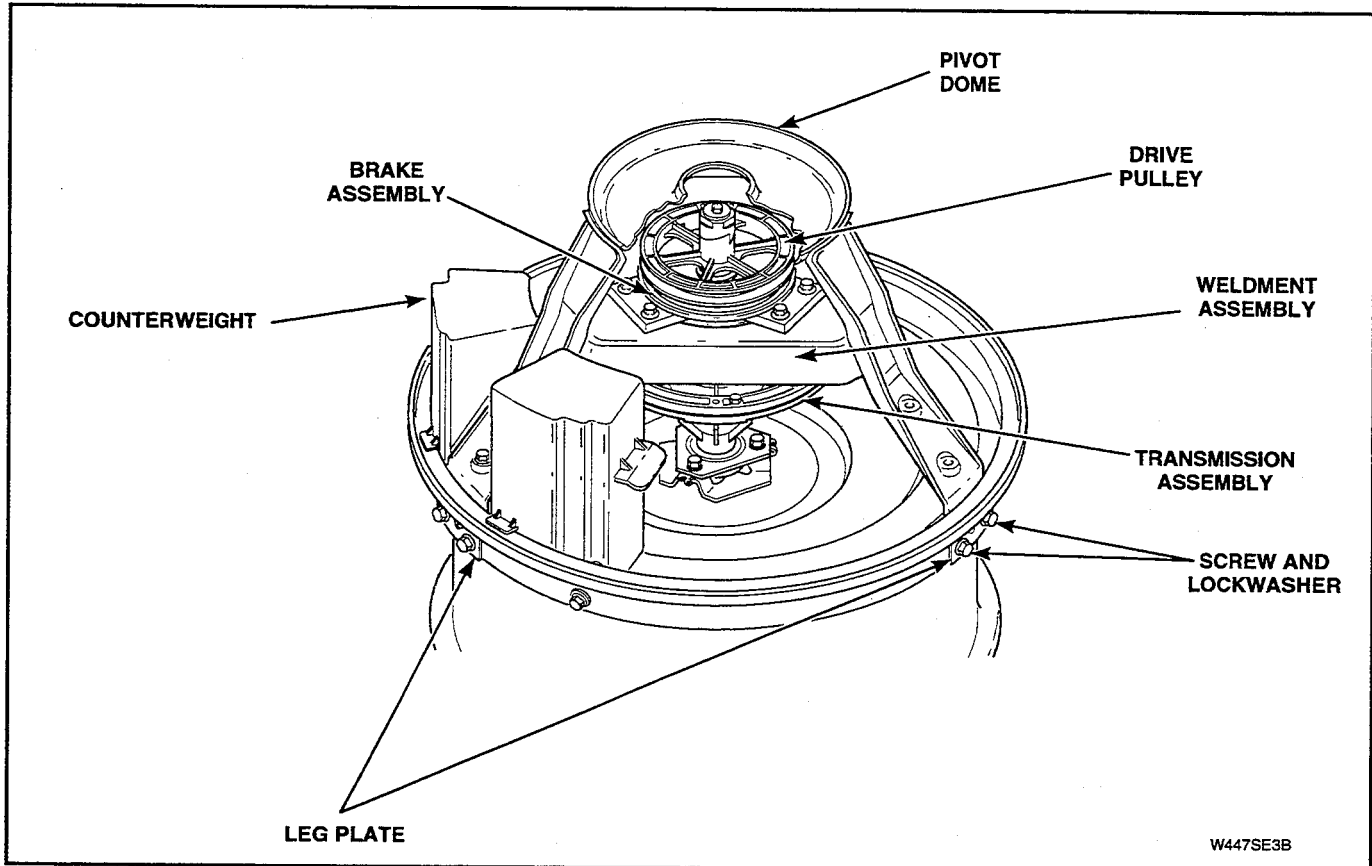

Figure 5-33
- v. Remove screws and lockwashers holding counterweight and each support leg to outer tub. See Figure 5-33. Then lift transmission, weldment assembly and counterweight off tub.